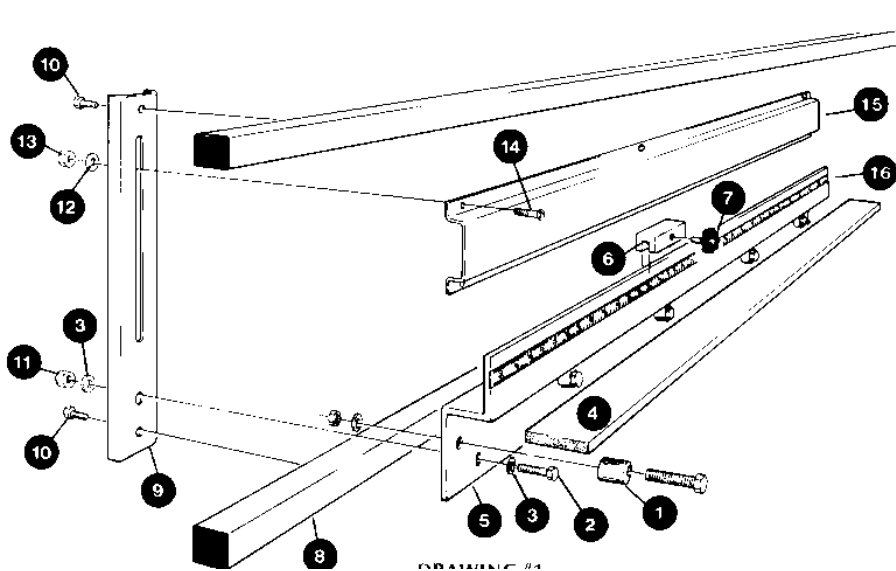

Figure 44: Pre-assembly of Midway Fence
The Midway Fence Accessory is a removable horizontal work piece support that mounts halfway up the tool frame. It allows narrow work pieces to be worked at waist height. The fence consists of left and right fixed brackets that mount to the frame, and removable supports for each side. The accessory contains the components shown in Figure 44.
1. Lay out the parts shown in Figure 44 on a horizontal surface (table or bench) for pre-assembly. Note that one end of each fence extrusion is cut at a 45° angle. The units should be pre-assembled so that these beveled ends will fit against the center of the tool frame at final assembly.
3. Tip the top of the rear support brackets (#9 in Figure 44) under the **upper** horizontal frame member (#8), raise the fence, and push the lower ends of the rear support brackets down behind the **lower** horizontal frame member. The nuts may have to be loosened slightly to perform this step.
3. Slightly loosen the bolts that secure the aluminum extrusion (#5, Fig. 44) to the rear support brackets (#9), to allow the extrusion to be moved up or down by tapping it with a mallet.